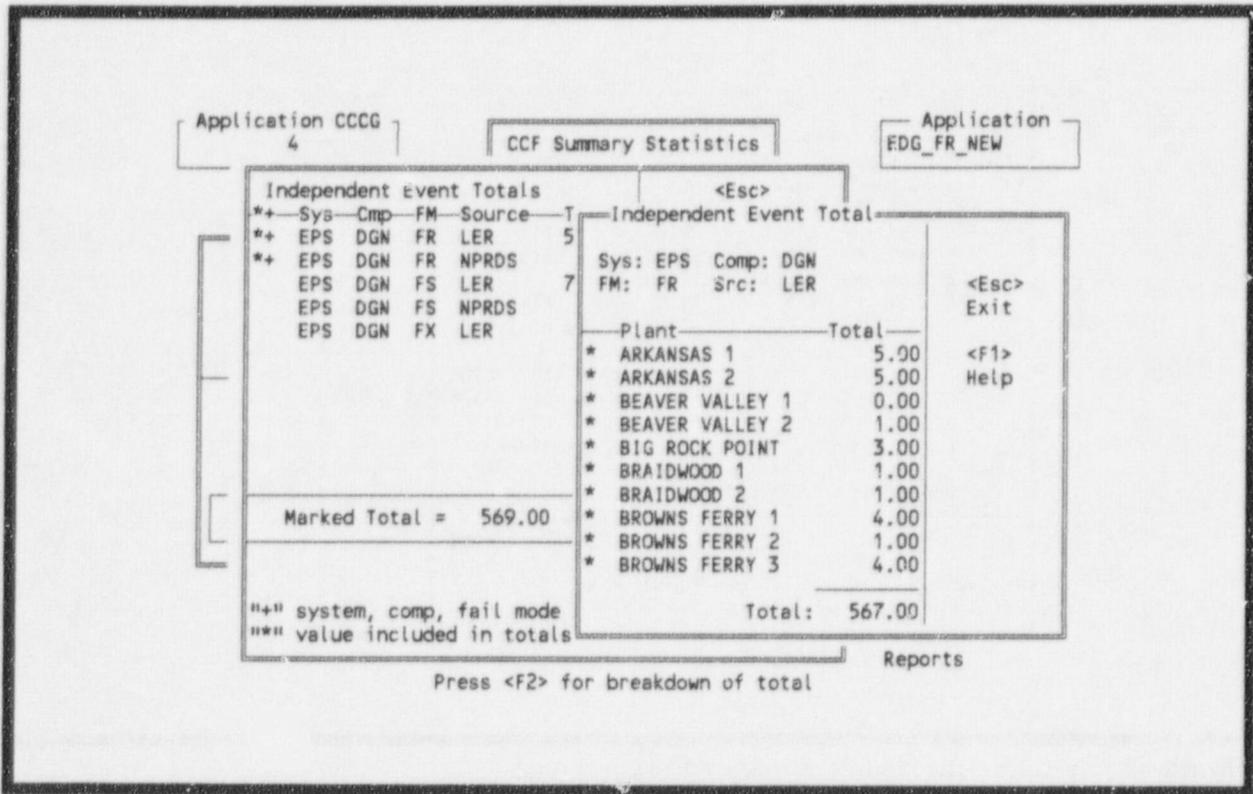

Figure 47. Specific—Breakdown of independent event totals by plant.
- <F3> By Plant—Breaks down the number of independent events for the highlighted entry by the plants which contributed to the total (Figure 47).